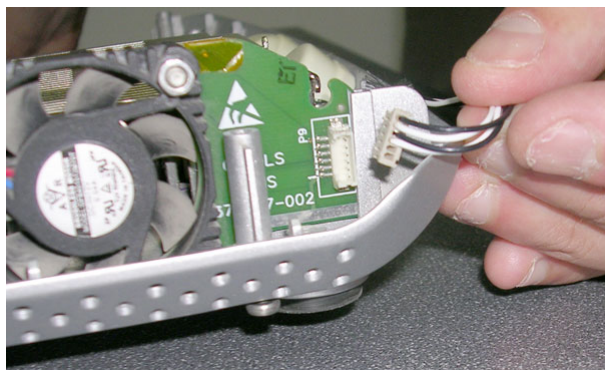

Figure 8-66 Disconnecting the Speaker Cable
- 4.) Disconnect the speaker cable from the fan assembly, as shown in Figure 8-66 below
- 4.) Reconnect the speaker cable to the fan assembly, as shown in Figure 8-66.